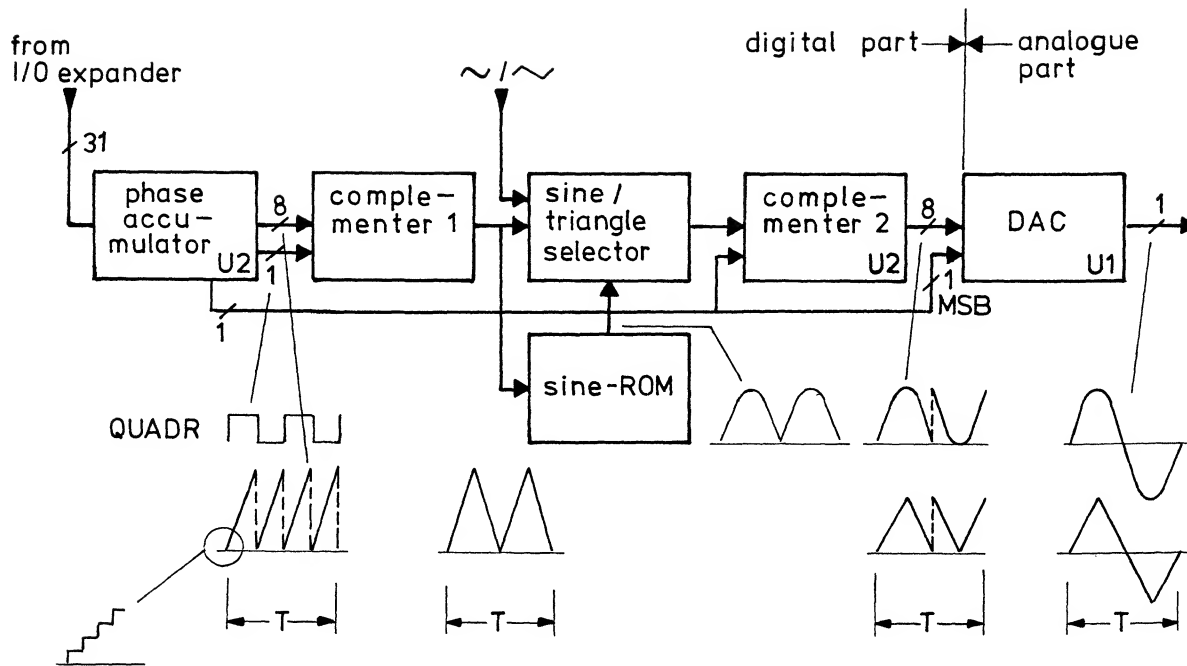

Fig.10: PM 5190, principle of signal generation
4.5. DIGITAL SIGNAL SYNTHESIS (figs.10, 45)
The block diagram for producing a binary sequence of numbers which corresponds to a sine or triangle signal, is depicted in fig.10, see over-leaf.